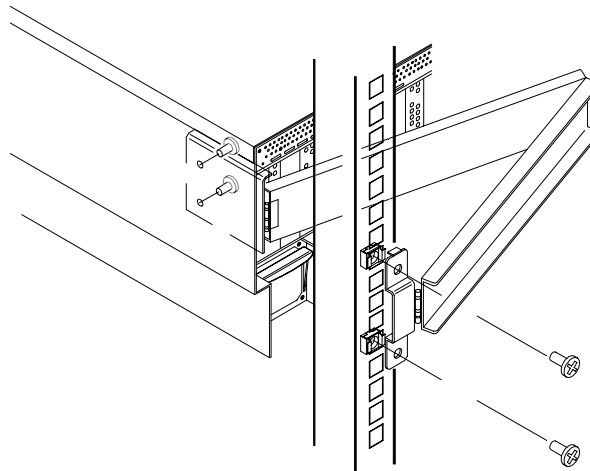

Figure 2-9. Attaching the Cable Retention Arm
1. Using two screws attach one end of the cable retention arm to the rear of the BSU (see Figure 2-9).
2. Using two screws attach the other end of the cable retention arm to the cage nuts installed in the left rear vertical mounting rail (see Figure 2-9).